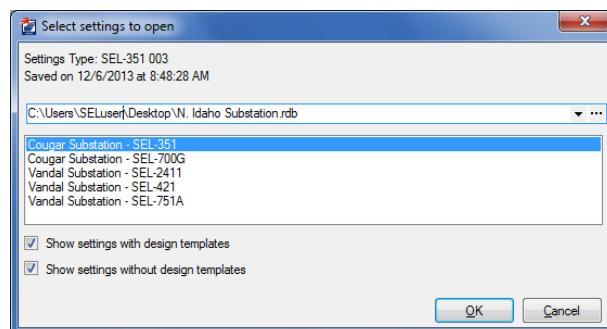

Figure 2.14 Settings File Open Window
- Step 2. Click **File > Open**, select the **Open Settings** (📁) icon from the toolbar, or select the corresponding text on the QuickSet Welcome Screen. Click the ellipses (...) to navigate to the file location on the computer where the RDB is located or choose from the recent Settings Databases listed in the dropdown menu. Click the settings file to highlight it and click **OK**, as shown in *Figure 2.14*.